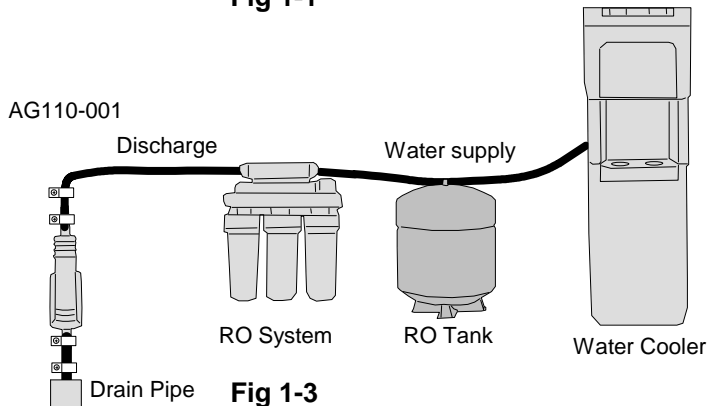

Fig 1-3
3. AG110-001 is a gravity flow device and must have an outlet poly tubing feeding directly to a drain without kinks or bends. The AG110-001 must be permanently connected to enable the discharge water to flow freely through the outlet tubing. (See FIG 1-3)